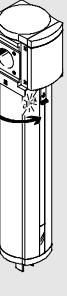

Fig. 9/图 9
- The unlocking slide can clearly be heard to snap into place when the end stop is reached (→ fig. 9).